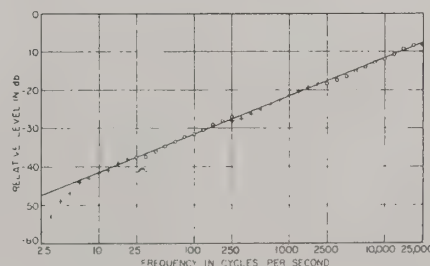

Figure 7. Results of Analysis of Noise-Generator Output Voltage by a Type 1564-A Analyzer. (Straight line drawn at slope of 10 db per frequency decade.)
2.6 ANALYSIS OF NOISE BY CONSTANT-PERCENTAGE ANALYZERS. If the output of the Type 1390-B Random-Noise Generator is analyzed by a Type 1564-A Sound and Vibration Analyzer, the results will be similar to those shown in Figure 7. Here the indicated level increases 10 decibels for each decade increase in frequency. This result can be understood by realizing that this analyzer has a bandwidth that is essentially a constant percentage of the center frequency. For example, at 5 kc the effective band width for noise is about 160 cps, and at 500 cps is about 16 cps.